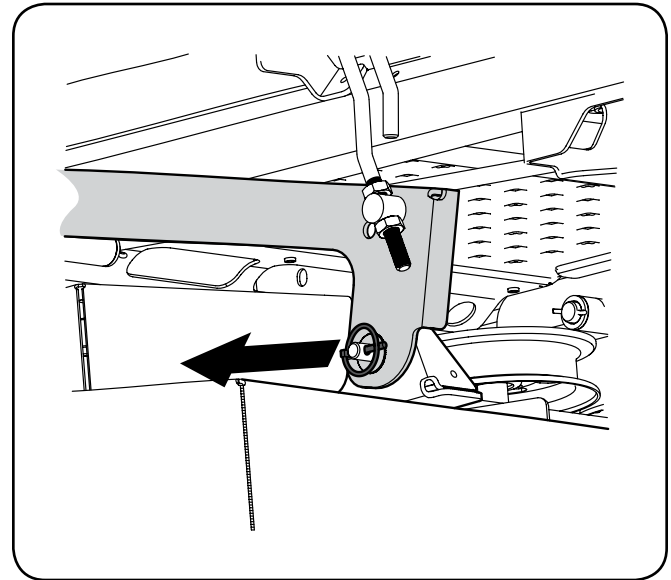

Figure 39
6. Locate the LH and RH deck release pins on each side of the deck. Pull the release pins outward and release the deck from the LH and RH deck lift arms. See Figure 39.
5. Pull the deck release pins outward and maneuver the deck as necessary to align the holes in the deck lift arms with the pins. Refer to Figure 39.